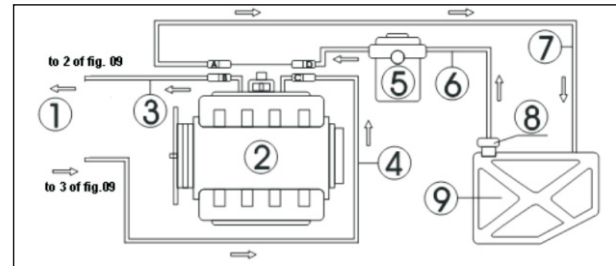

Fig.01
The hose line connection of the engine with return hose is shown as in Fig.01.
- Disconnect the connections of fuel supply hoses (C、D) and fuel return hoses (A、B) of the engine fuel system (wrap the connector with towel when disconnecting the connector). Choose proper connectors and connect them to the B end and C end separately, and then connect the other ends to corresponding return hose and outlet hose of the unit. See Fig.01.